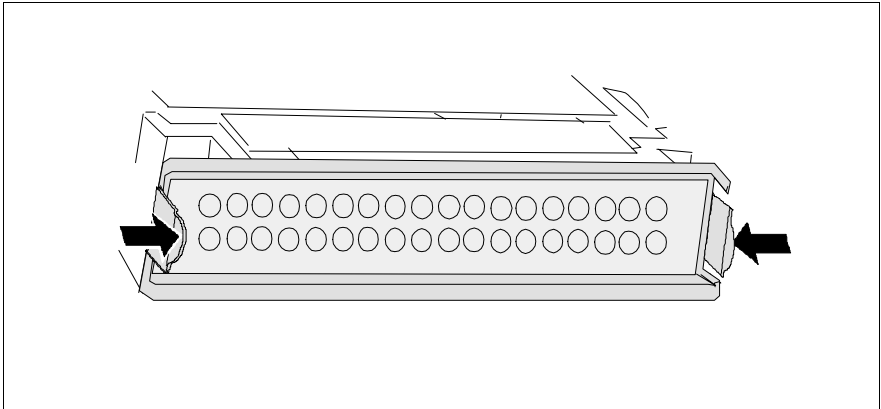

Figure 23: Removing the dummy module
- ▶ Press both tabs on the dummy module together (see figure 23) until the locking mechanism disengages, and remove the dummy module from the slot.